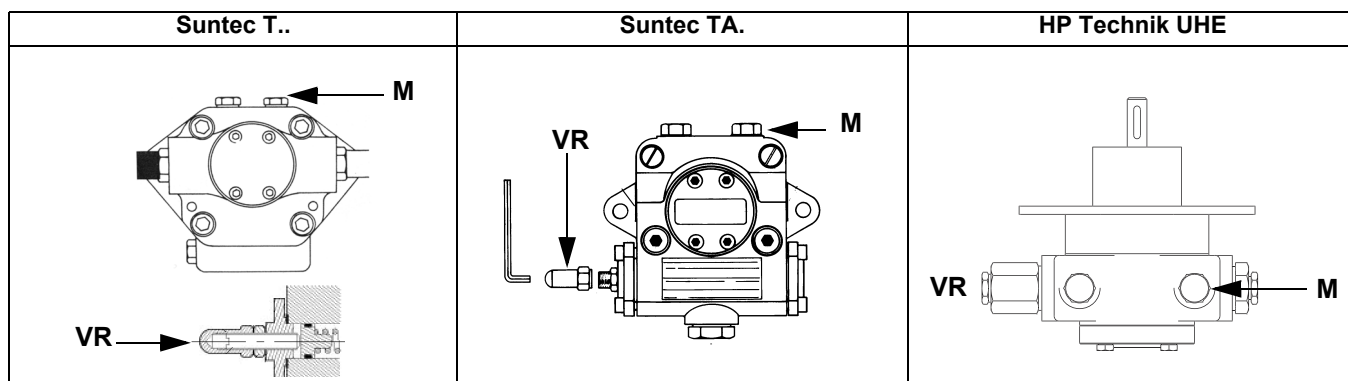
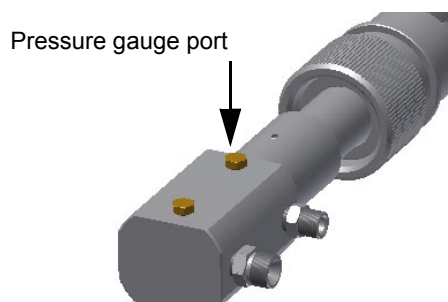

Fig. 11
Fig. 12
- 3 bleed the air from the **M** pressure gauge port (Fig. 11) by loosening the cap without removing it, then release the contactor.
- 5 Only if necessary, adjust the supply pressure as follows (see related paragraph); insert a pressure gauge into the port shown on Fig. 12 and act on the pump adjusting screw **VR** (see Fig. 11) as to get the nozzle pressure at 20bar (Monarch or Fluidics nozzles - see page 39-38).